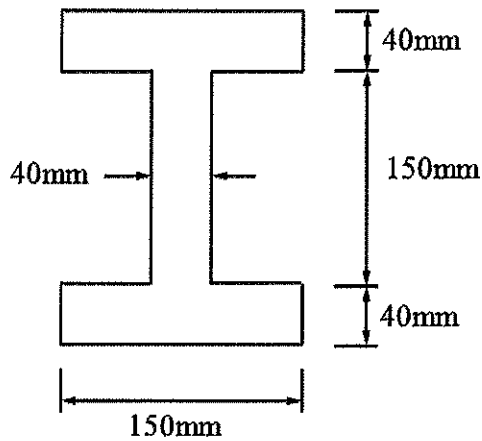

Figure B2(a) / Rajah B2(a)
- (a) A cross section of simply supported beam is shown in **Figure B2(a)**. Calculate bending stress for this beam. Given the neutral axis from bottom section, $\bar{y}$ is 115mm and maximum moment is 660×10^6 Nmm.